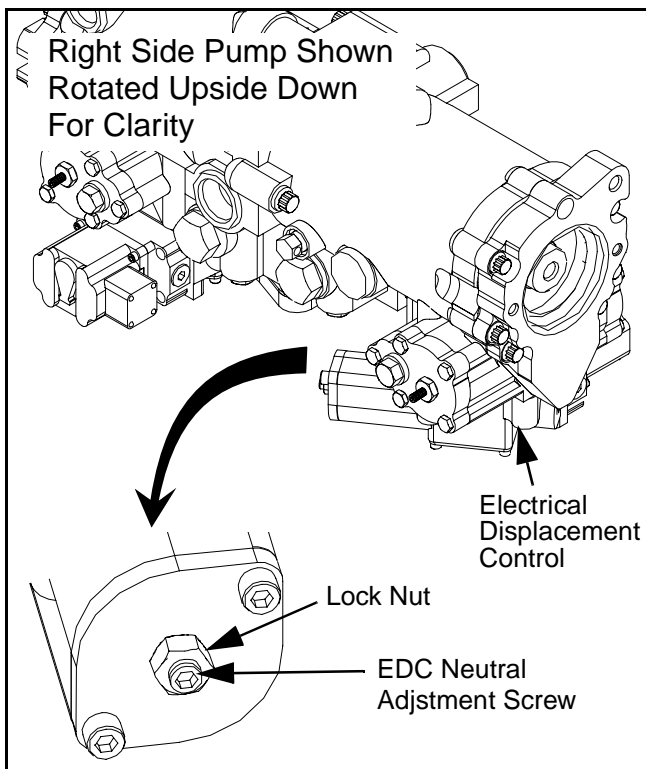

Figure 5 - 14 Electrical Displacement Control
- 9) Disconnect wiring from the Electrical Displacement Control (EDC) at the pump. (Figure 5 - 14)